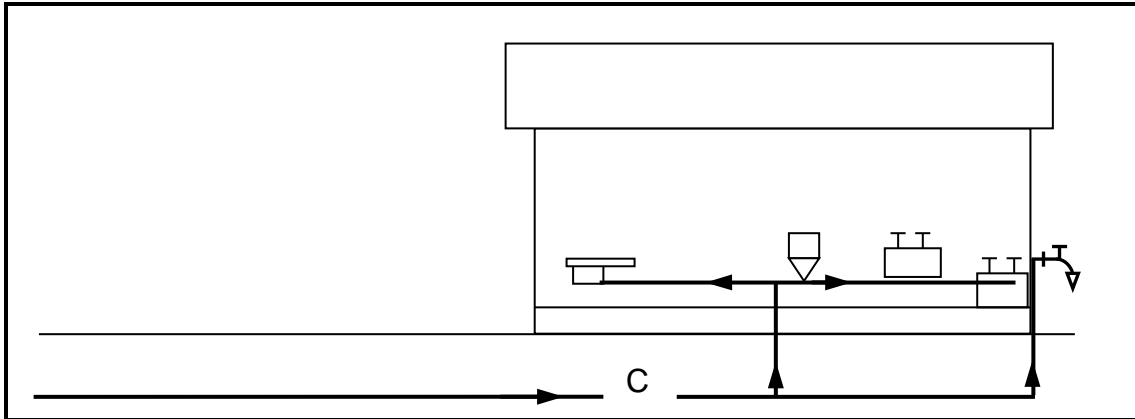

FIGURE 5.6
5.6 FIGURE 5.6 shows the front elevation of the cold-water supply from the water meter to a house on scale 1 mm = 100 mm. The main cold-water pipe has a diameter of 22 mm and the branch pipes have a diameter of 15 mm. Study the drawing and determine the material needed for the plumbing installation by completing the table.